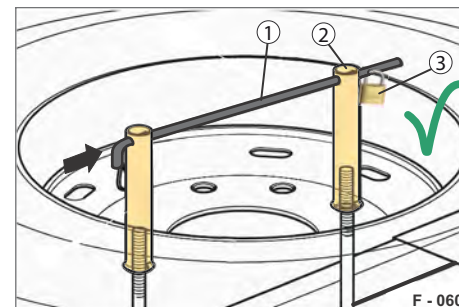

Fig. 79 Spare wheel secured
- ▶ Screw the tube nuts (Fig. 79/2) to the hook bolt.
- ▶ Tighten the two tube nuts (Fig. 79/2) by hand.
- ▶ Tighten the tube nuts with the tommy bar (Fig. 79/1) as a lever (at least 5 rotations).
- ▶ Feed the tommy bar (Fig. 79/1) through both tube nuts (Fig. 79/2).
- ▶ Attach the padlock (Fig. 79/3). The spare wheel is secured against falling out.